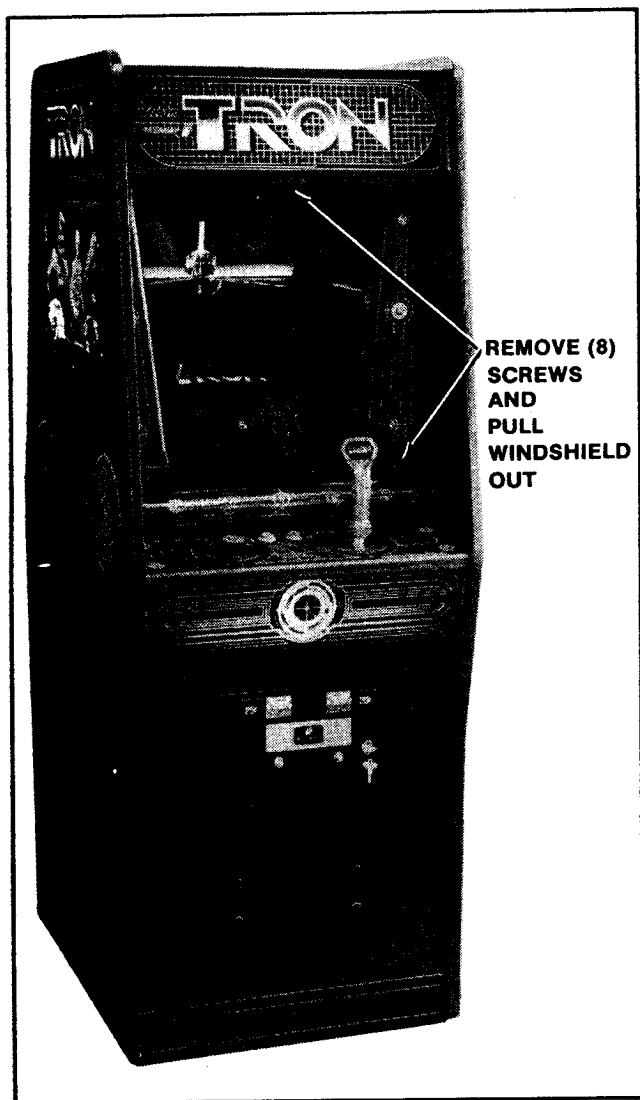

Figure 4-5 Removing Windshield & Windshield Retainers — Upright
- ☐ Remove the screws securing the windshield retainer and the windshield in place as shown in Figure 4-5 and lift out the windshield.